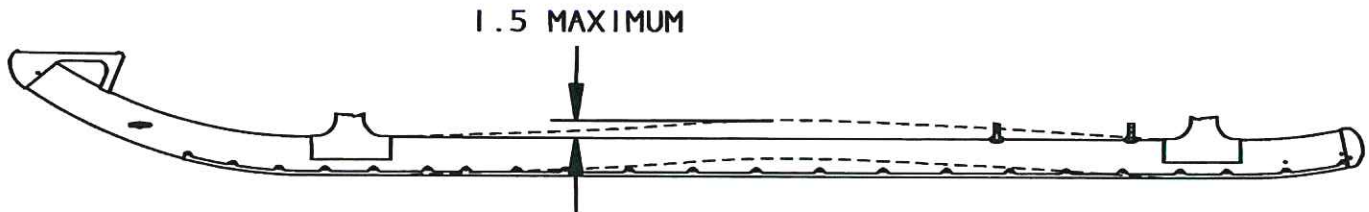

Figure 1. Skid Tube Bend Limit
2. Inspect the region of the Skid Tube between the Saddles for bending. A smooth bend from Saddle to Saddle with an apex of 1.5 inches is acceptable. If the bending exceeds 1.5 inches the tube must be replaced (see Figure 1).